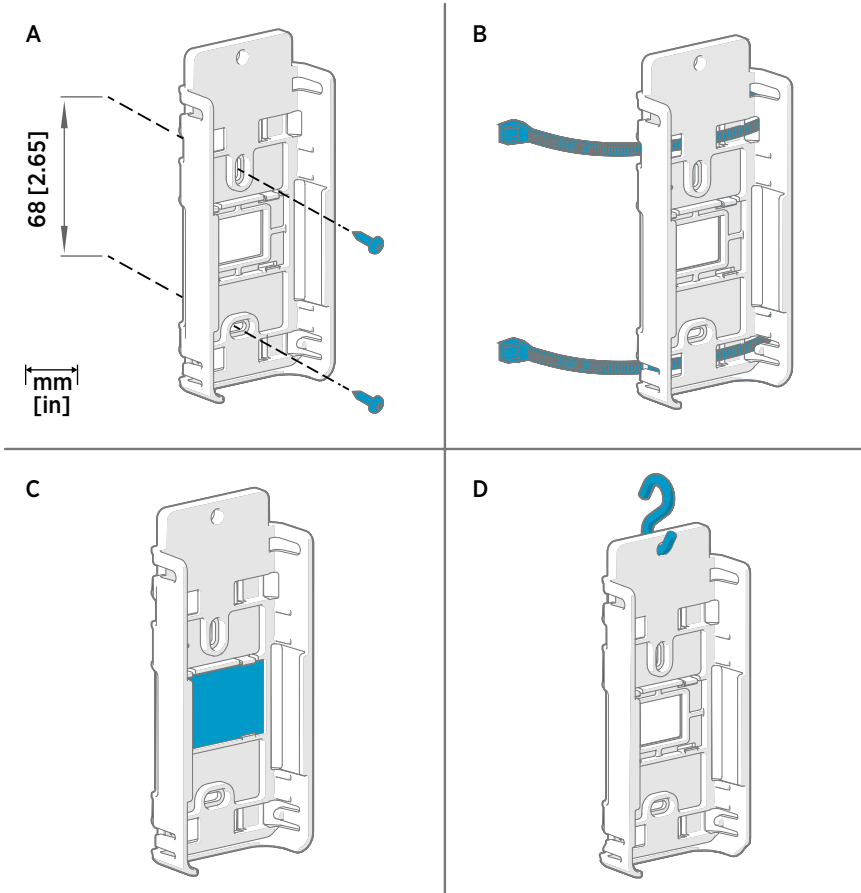

Figure 1 RFL100 Mounting Methods
2. Attach the mounting bracket using one of the mounting methods shown in Figure 1 \(page 6\). Orient the bracket vertically so that the probe or probe cable points down after installation. Do not attach the RFL100 without the mounting bracket.